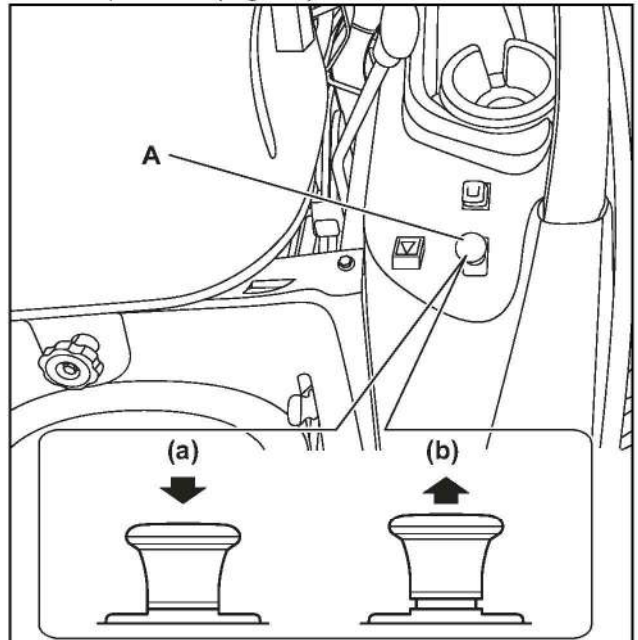

Fig 7-8
2. Push down the Power Take Off (PTO) switch to OFF position. (Fig 7-8)